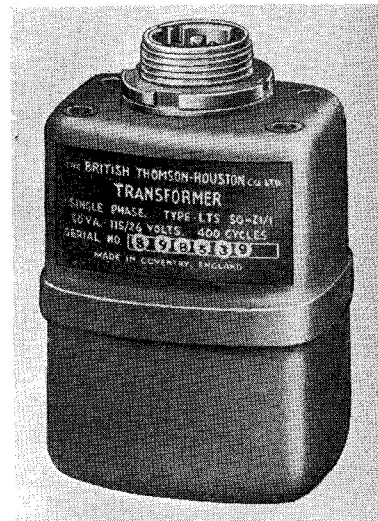

Fig. 1. General view, transformer, Type LTS.50, Form Z1/1
1. The Type LTS 50, Form Z1/1 transformer (*fig. 1*) is designed to provide a low-voltage, high-frequency alternating current supply for aircraft instrumentation purposes.